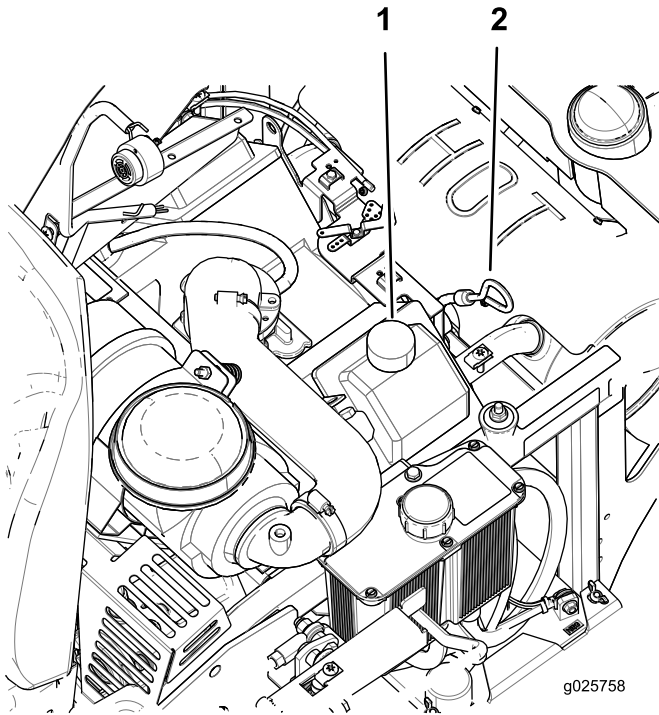

Figure 33
- Clean the area around the dipstick (Figure 33).
- If the oil level is low, wipe off the area around the oil fill cap, remove cap and fill to the **full** mark on the dipstick (Figure 33). Do not overfill.
4. Slowly pour approximately 80% of the specified oil into the filler tube and slowly add the additional oil to bring it to the **full** mark on the dipstick (Figure 33).
5. Start the engine and drive to a flat area. Check the oil level again (Figure 33).